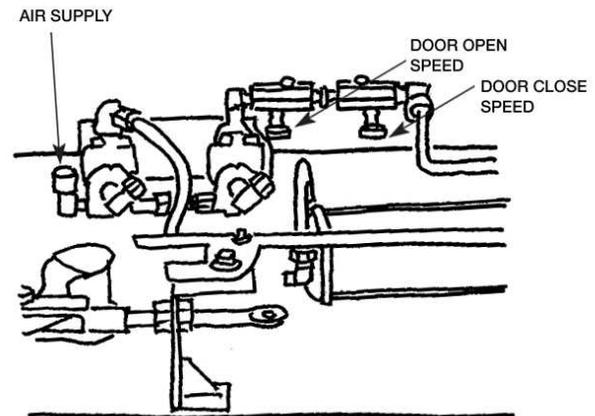

Figure 11
1. To adjust door closing speed (the control valve is located on the solenoid valve assembly) loosen the locknut and turn the knob clockwise to decrease the door speed, counterclockwise to increase the speed. See Figure 11.